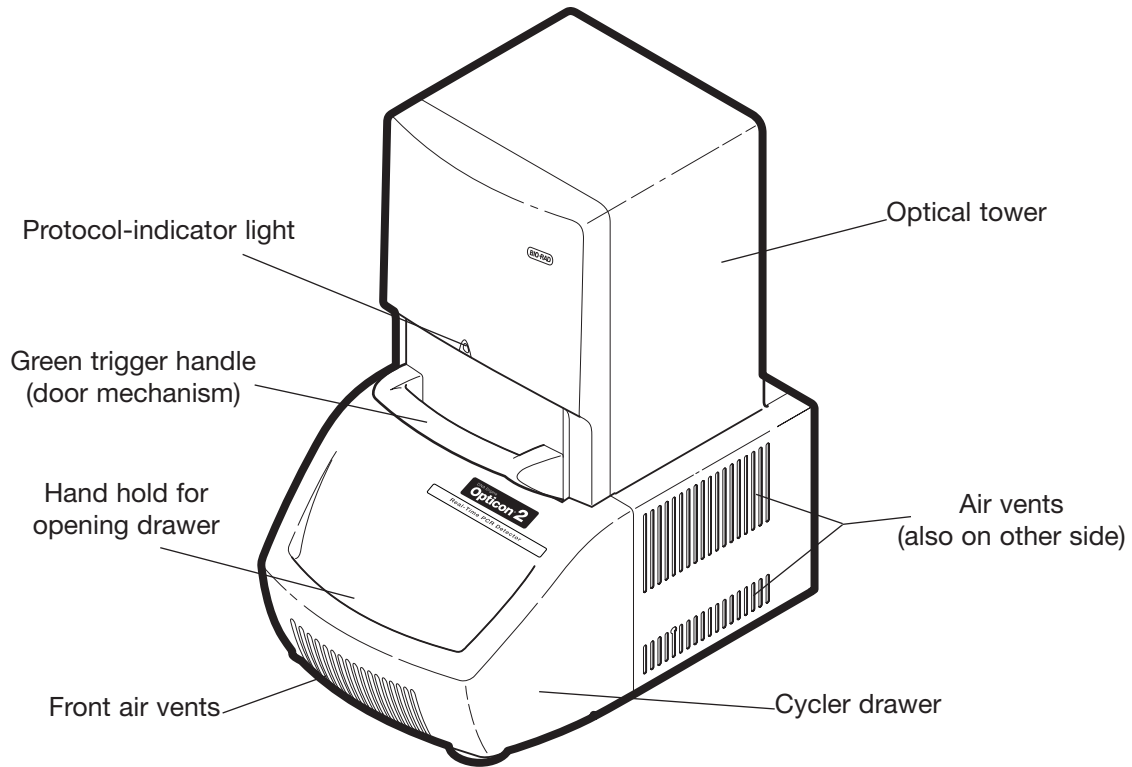

Figure 2-1. Isometric view of instrument
The DNA Engine Opticon 2 unit requires a constant supply of air that is 31°C or cooler in order to remove heat from the heat sink. Air is taken in from the lower vents located on the sides of the instrument and exhausted from the upper vents on both sides (see Figure 2-1). If the air supply is inadequate or too hot, the instrument can overheat, causing performance problems and even automatic shutdowns.
- Do not block air intake vents (see Figure 2-1).